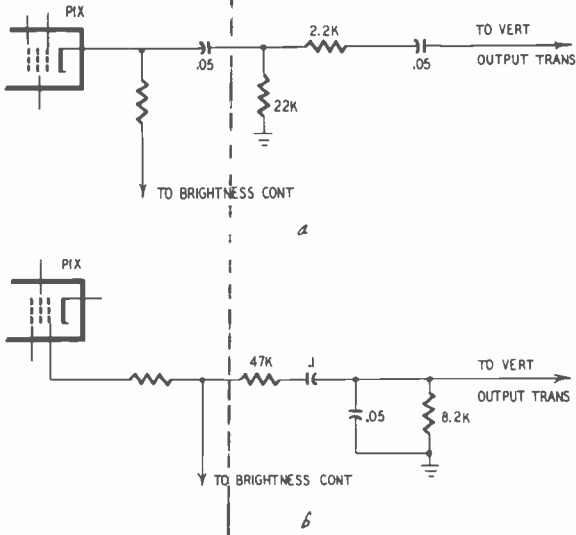

Fig. 4-R. Vertical-retrace blanking networks.
**SERVICE:** Check vertical-retrace blanking network (see Fig. 4-R); vertical-output tube; also coupling capacitor between vertical-oscillator and vertical-output tubes.